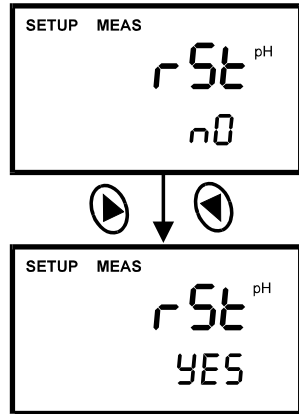

Figure 32 – P4.0: Reset to factory default values (pH 300 meter only)
4. Press the **ENTER** key to enter parameter P4.0. See Figure 32.